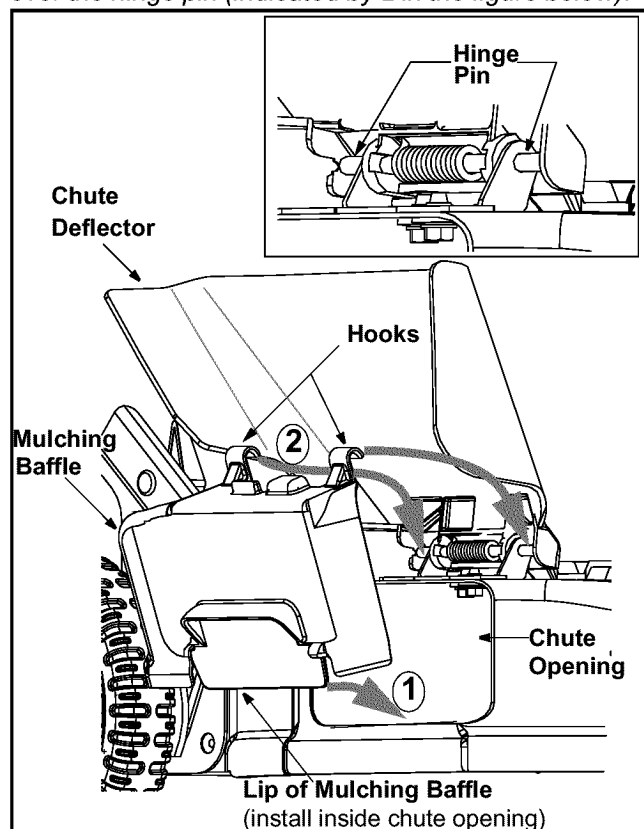

Figure 7
- Insert bottom lip of the mulching baffle **inside** the chute opening. See Figure 7.
- Snap hooks of the mulching baffle over the hinge pin of the chute deflector. See Figure 7. The hooks must snap into place on the hinge pin, locking the mulching baffle firmly onto the mower. For a close-up of the hinge pin location, see inset.